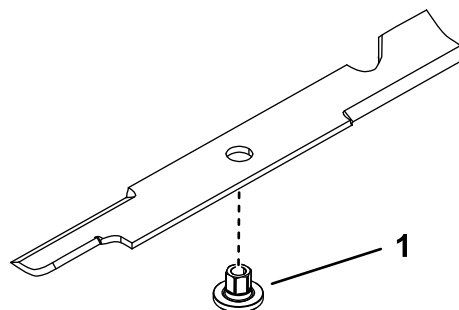

Figure 80
1. Install the bushing through the blade with the bushing flange on the bottom (grass) side of the blade (Figure 80).